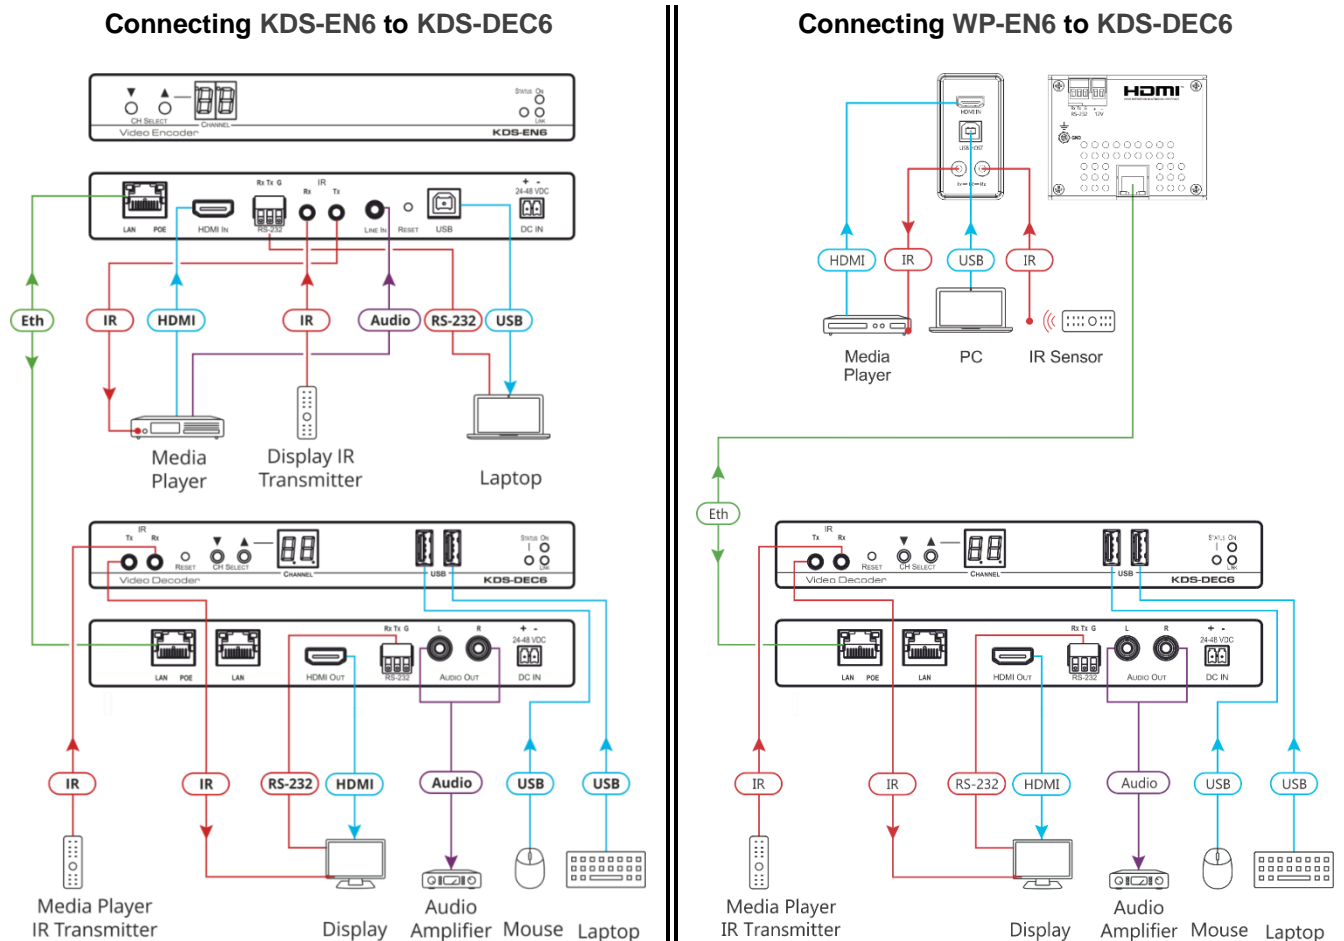

Figure 6: Connecting an Encoder and Decoder System
You can use one **KDS-EN6** device and one **KDS-DEC6** device to configure an encoder and decoder system (see Figure 6).
**To connect the encoder and decoder system as shown in the example in Figure 6:**
4. If you are not powering the device via PoE, connect the **KDS-DEC6** and the **KDS-EN6** to the 24-48V DC power adapter and connect the adapter to the mains electricity (not shown in Figure 6).